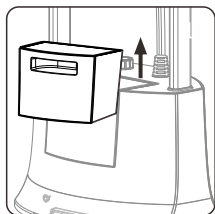

Figure 10
1.Place the unit on a stable ground, and remove the Water Tank. (Figure10)